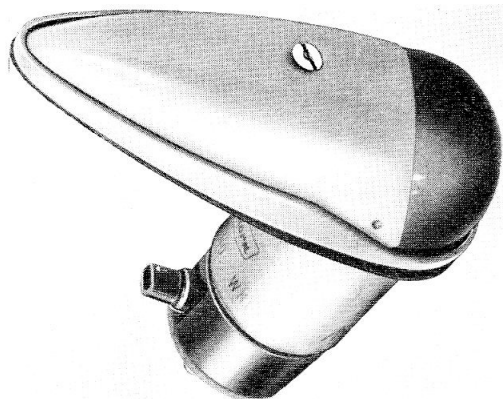
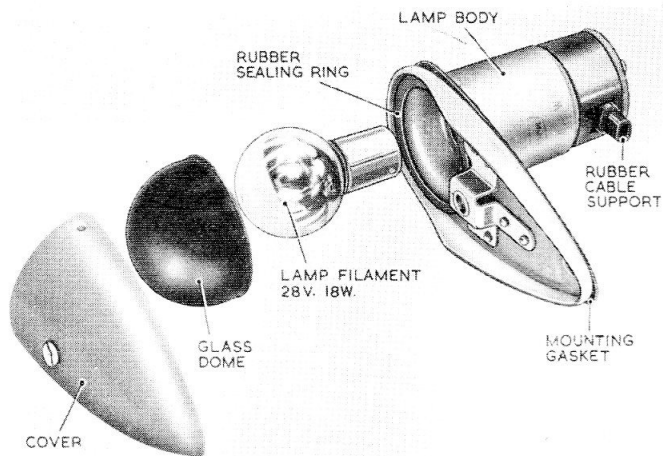

Fig. 1. Wing tip navigation lamp,
Fig. 2. Lamp with cover removed
2. An external view of the lamp is shown in Fig. 1, and a view with the cover removed is shown in Fig. 2. The latter figure shows the main parts of the lamp. The S.C.C. lampholder